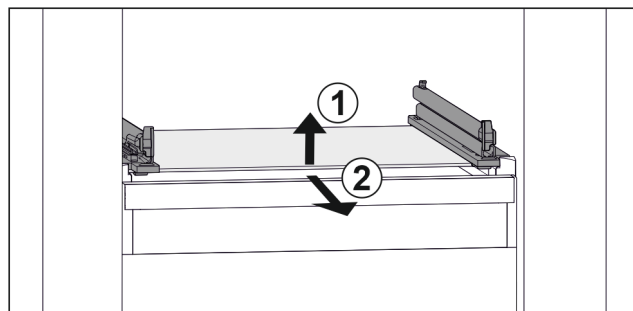

Fig. 153 Example illustration of glass shelf
- ▶ Lift glass shelf at the front. Fig. 153 (1)
- ▶ Take out glass shelf to the front. Fig. 153 (2)